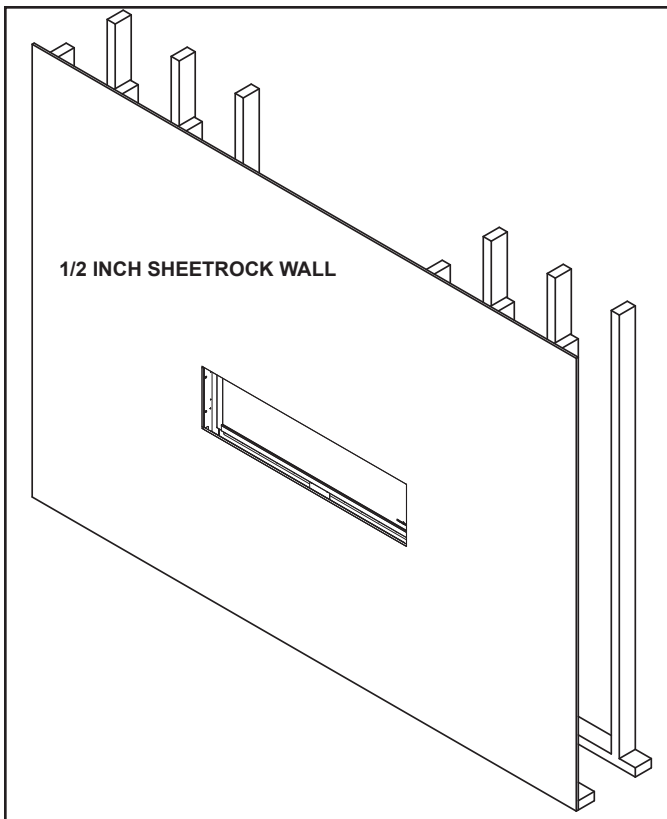

Figure 10.3
1. Install 1/2 inch sheetrock on wall. Figure 10.3 shows the PRIMO installed. Sheetrock (1/2 inch) has been installed up to the top, bottom and sides of appliance opening as shown in Figure 10.2 and 10.3. See Section 10.A for more details regarding facing material.